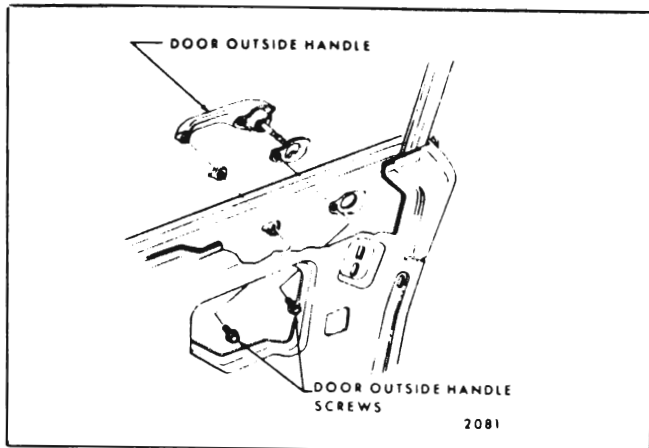

Fig. 6-9—Door Outside Handle Removal
- Raise door window. Remove door trim assembly and detach upper rear corner of inner panel water deflector sufficiently to gain access to door outside handle attaching screws (Fig. 6-9).